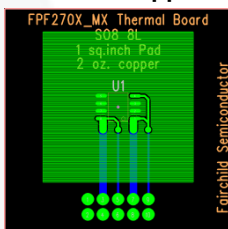

Figure 10. 102°C/W mounted on a 1in2 Pad of 2-oz. Copper
|                  |                                          | SO8 (1) , See Figure 10    |      | 1.00                  |      |
|                  |                                          | SO8 (1) , See Figure 10    |      | 102                   |      |